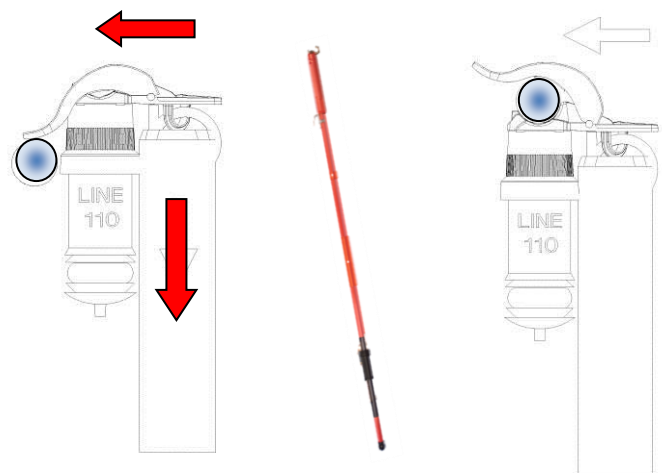

Figure 15: Mounting using Grip-All clamp hot stick
2. Pull the stick downwards and against the line, until the line is in the correct position within the clamp, see fig 15.
1. Fix the claw in the “eye” on the horizontal part of the line-clamp, see fig 15.